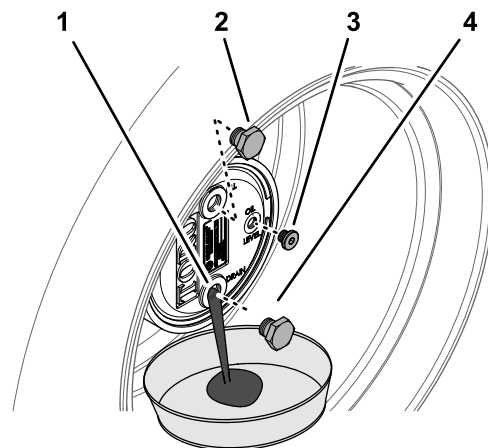

Figure 139
2. Remove the fill plug at the 12 o'clock position and the check plug at the 3 o'clock position (Figure 139).
- Place a drain pan under the planetary hub, remove the drain plug at the 6 o'clock position, and allow the oil to fully drain (Figure 139).
- Install the drain plug into the drain hole of the planetary housing (Figure 139).